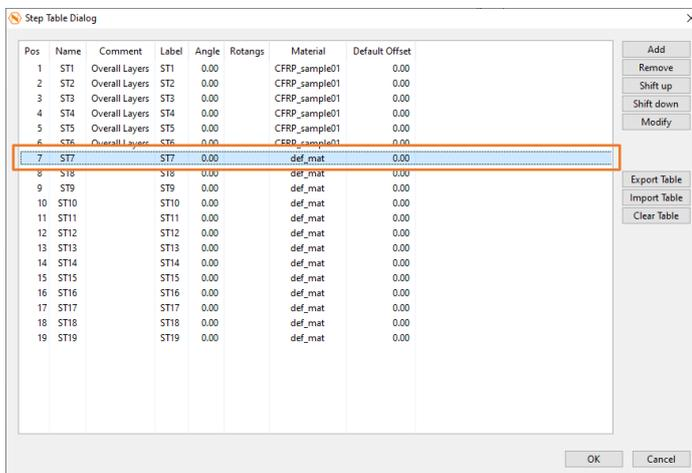

Figure 233
- Proceed with step 7 by double-clicking line 7 (Figure 233) or by selecting line 7 and click **Modify**.